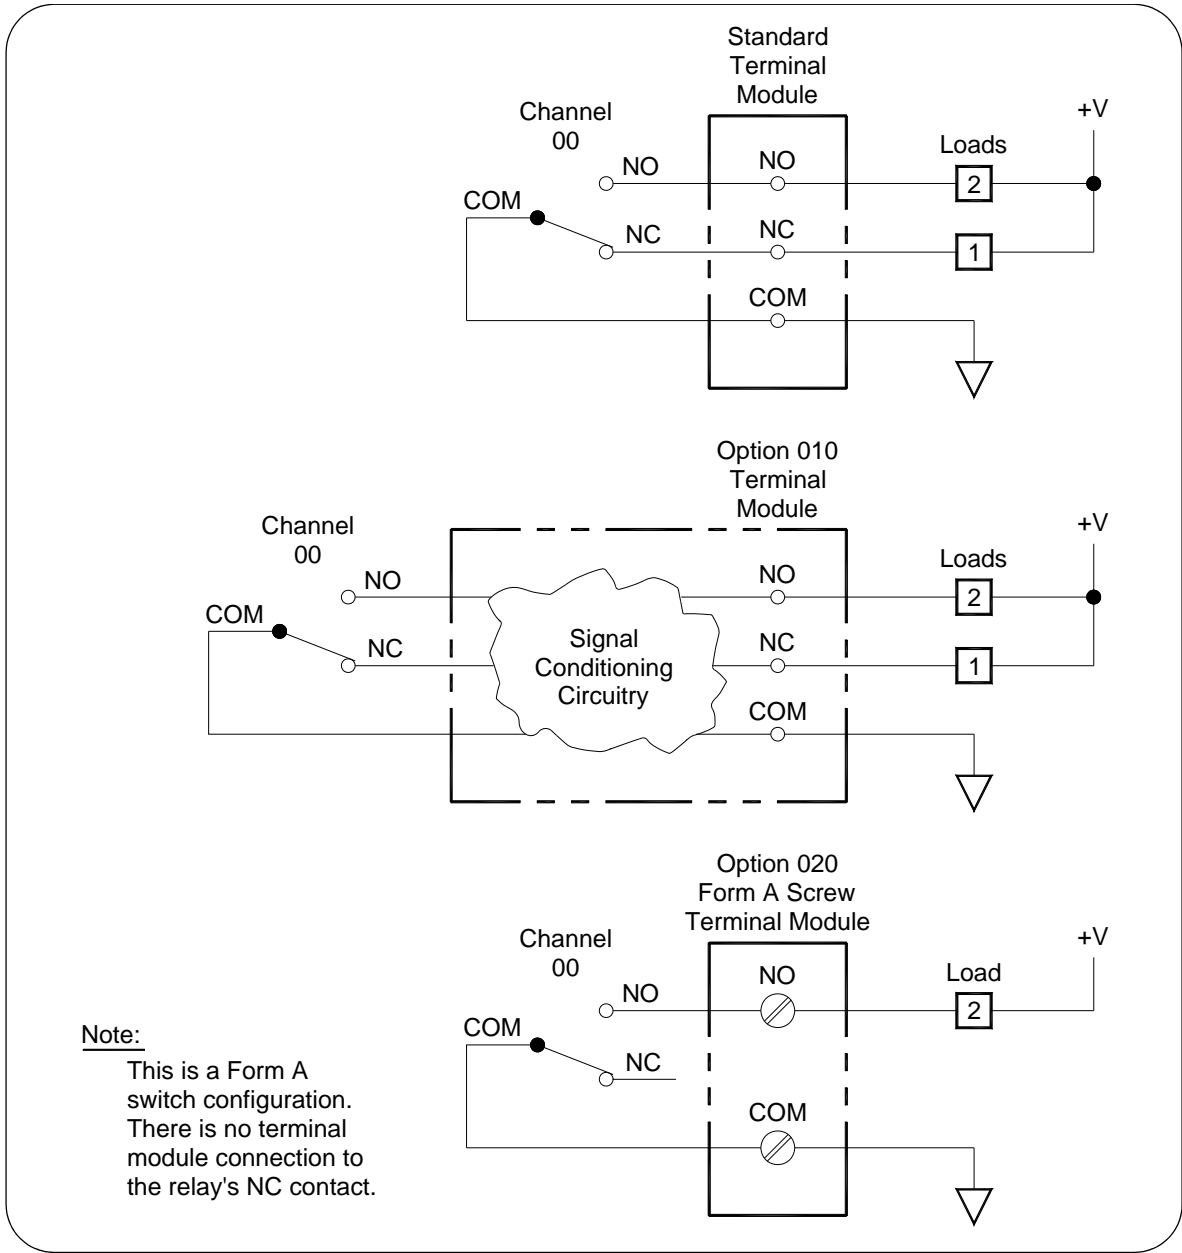

Figure 1-4. Terminal Module Configurations
Figure 1-4 shows the three terminal modules and options for NO and NC connections for each terminal type. A switch (relay) is **open** when contact is made between the normally closed (NC) contact and common (C). A switch is **closed** when contact is made between the normally open (NO) and common (C). Any combination of open or closed states is allowed at one time for all channels on the module.